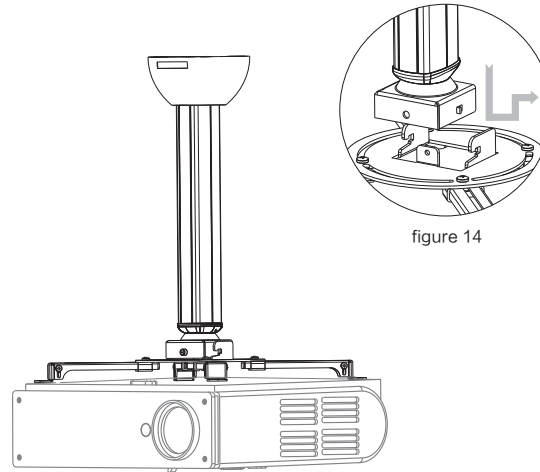

figure 14
- 4 With the projector installed to the installation base, hook the adjuster to the base as figure 14.